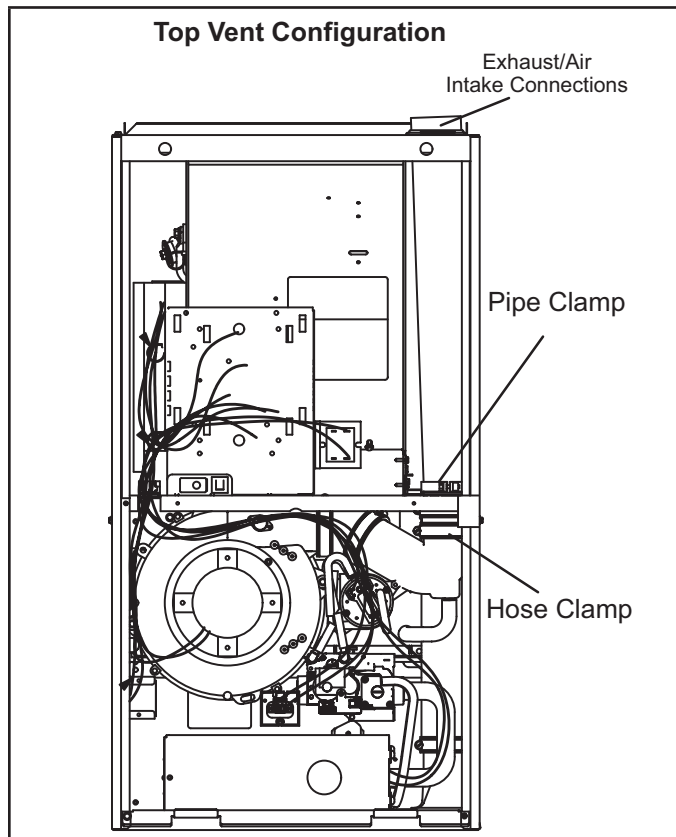
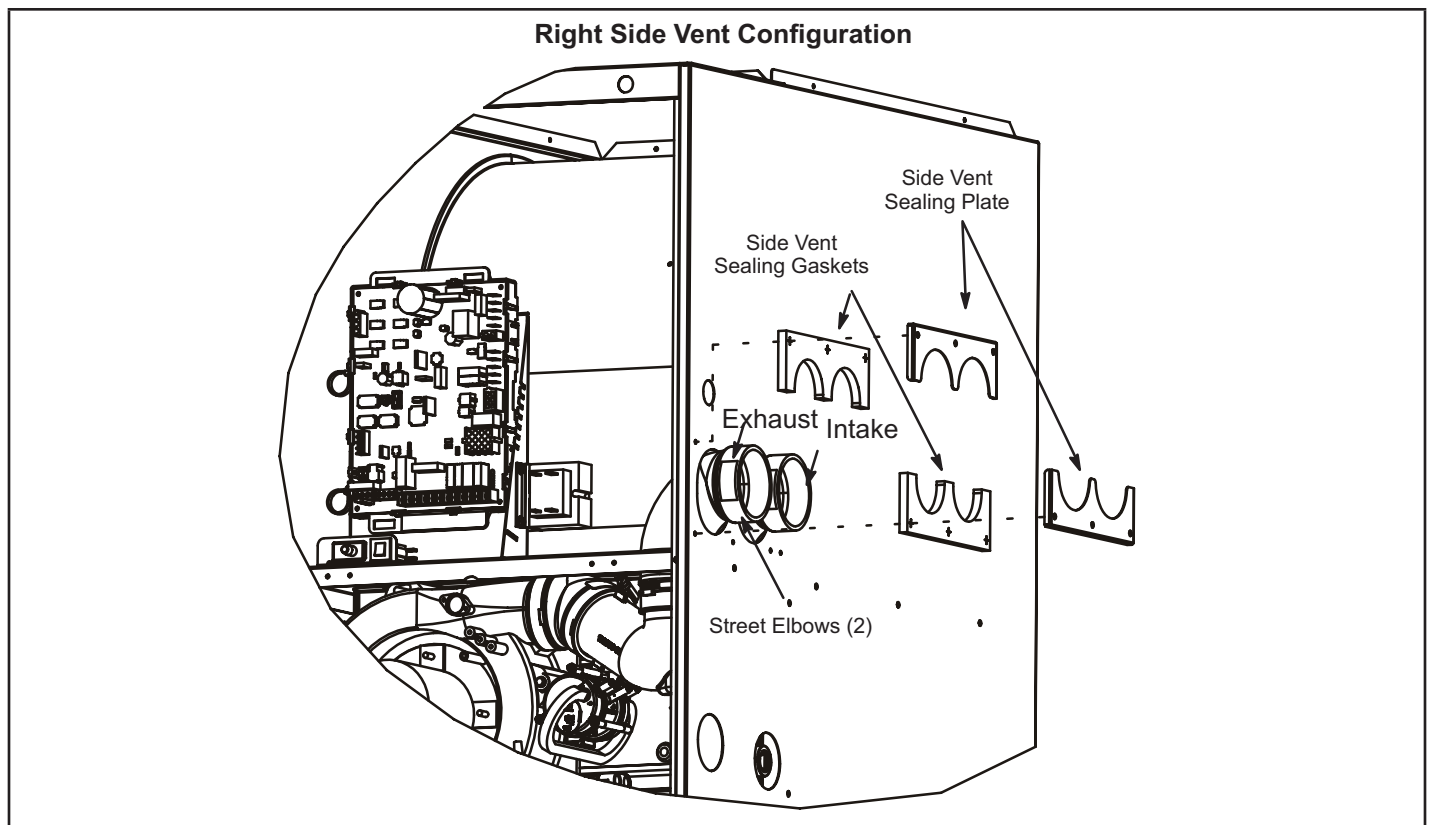

FIGURE 13
FIGURE 15
The SLP98DF is shipped with vent exhaust / air intake connection at the top cap. See FIGURE 13. Using parts provided, the furnace may be field modified to have these connections on the right side of the furnace cabinet. See FIGURE 15 and follow the steps below. For left side venting order kit 87W73.
- 2 - Loosen hose clamps which attach rubber fittings to the white PVC pipes inside the vestibule area. See FIGURE 13.
- 3 - Loosen the clamp which secures the pipes at the blower deck. See FIGURE 13.
- 11 - Peel protective backing from side vent sealing gaskets (2) and apply to side vent sealing plates (2) as shown in FIGURE 15.
- 12 - Install the side vent sealing plates and gaskets on the exterior of the cabinet as shown in figure 15. Secure with six mounting screws (four reused and two provided from bag assembly). Holes are pre-punched in the parts and cabinet, no drilling is required.